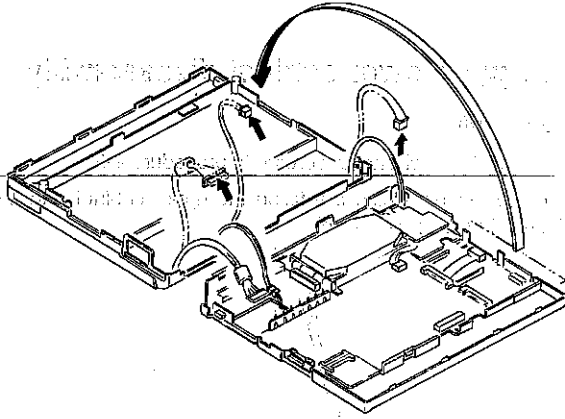

Fig. 2-5
- Remove the engagement section of the upper and lower cabinets. Since the upper and lower cabinets are connected with LCD cables, etc., place the set as shown in Fig. 2-5 and remove the connectors.